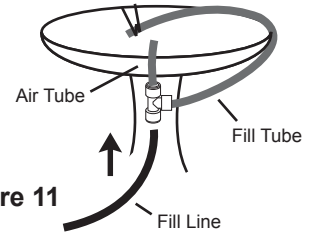

Figure 11
15) Push the Fill Line all the way into the bottom of the Bubble Separator (see Figure 11). No water should flow into the birdbath at this time.